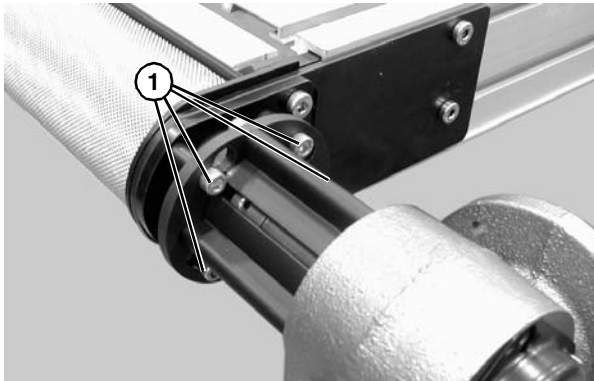

Figure 64
b. Loosen the four (4) lock screw (**Figure 64, item 1**).